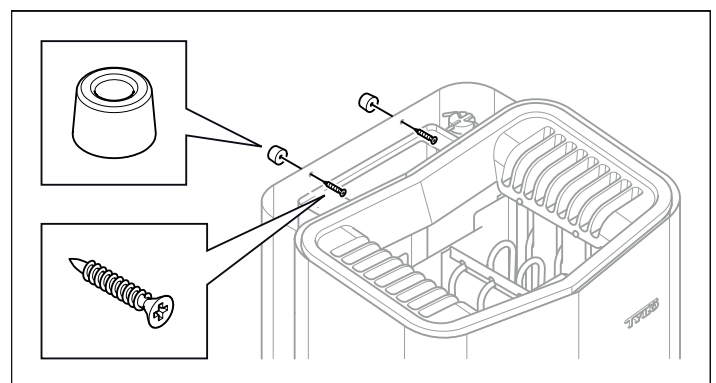

Fig 12: Fit spacers
10. Fit the spacers between heater and wall (to prevent the heater from being lifted off) (see Figure 12).